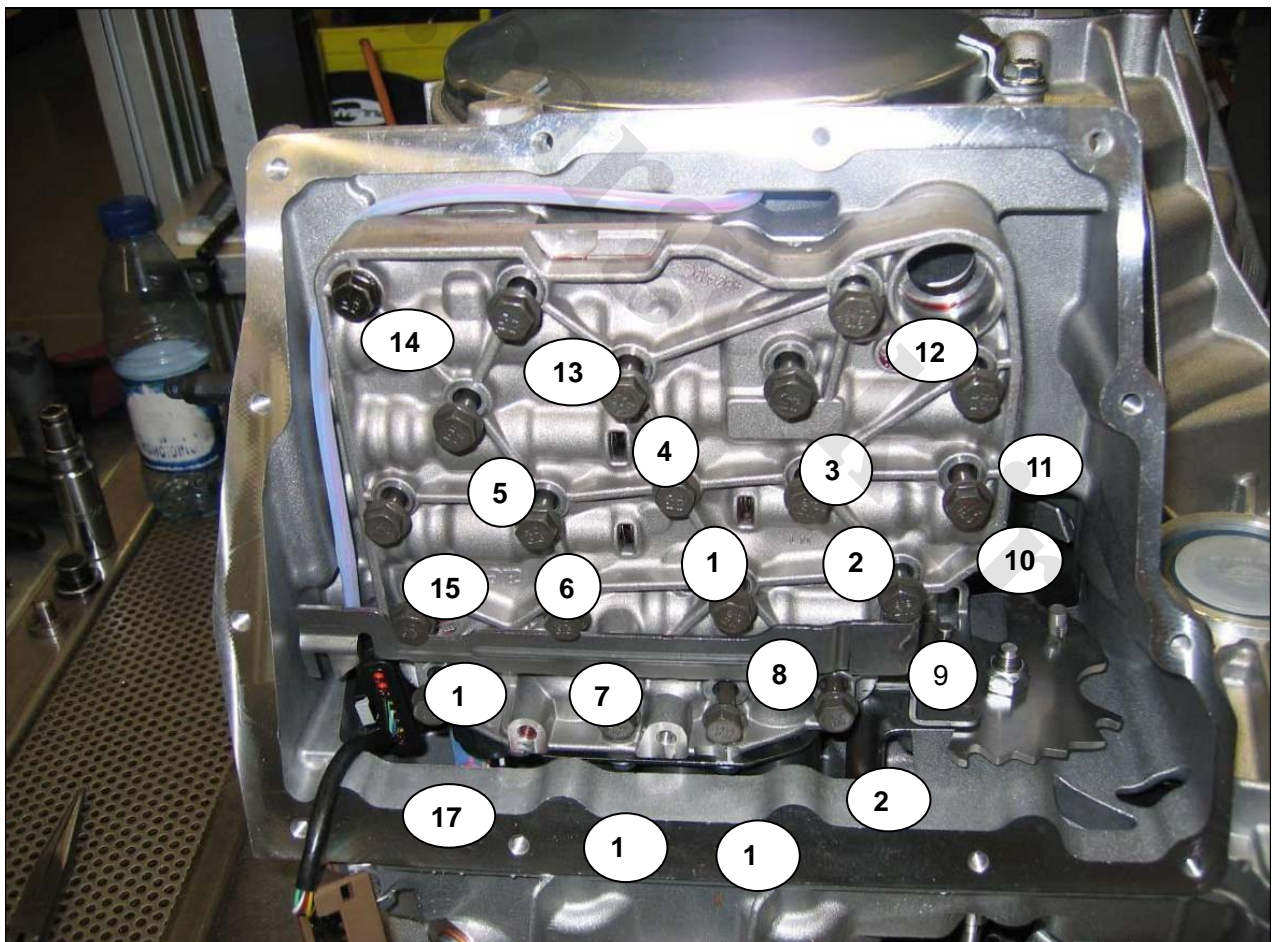

Fig. 12-1: Bolt sequence
- As shown in Fig. 12-1, remove bolts according to 20 - 19 - 18 - 17 - 16 - 15 - 14 - 13 - 12 - 11 - 10 - 9 - 8 - 7 - 6 - 5 - 4 - 3 - 2 - 1